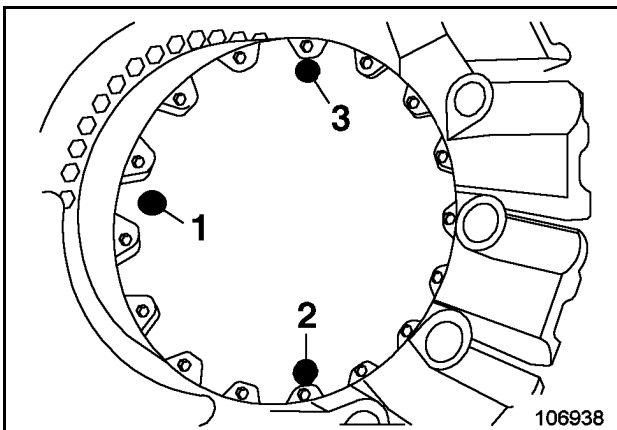

Fig. 3-86:
- Move the excavator into such a position that the screw plugs (1, 2 and 3, Fig. 3-86:) are in the displayed position.